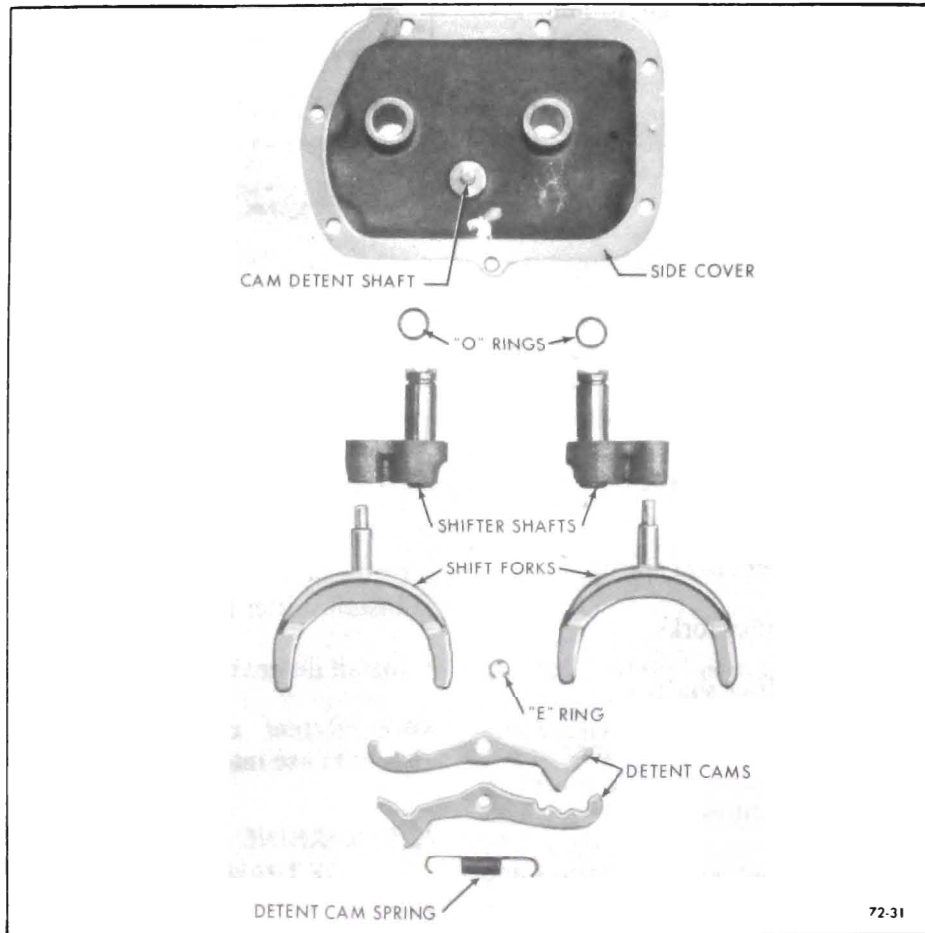

Figure 72-31 - Exploded View of Side Cover
a. Disassembly (See Figure 72-31)
b. Assembly (See Figure 72-31)